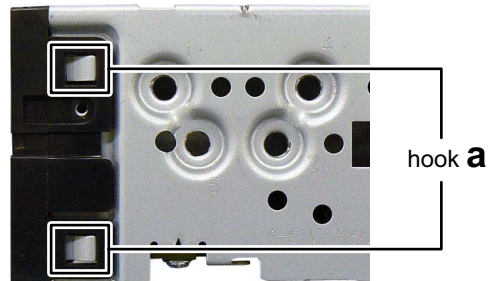

Fig.3
3.1.2 Removing the Front chassis (See Fig.3)